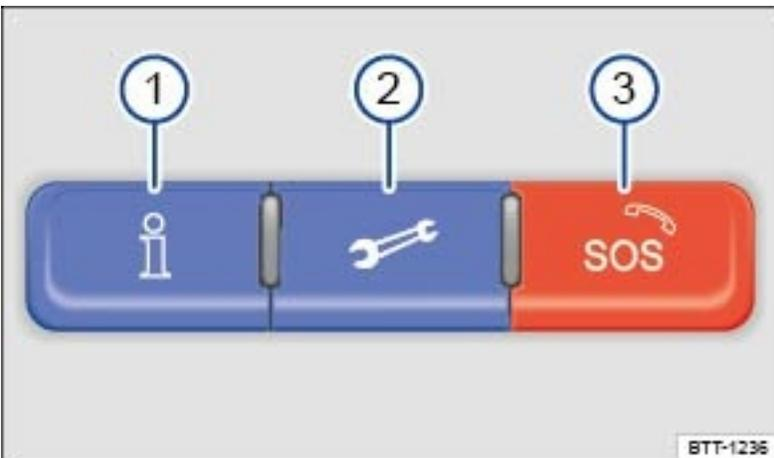
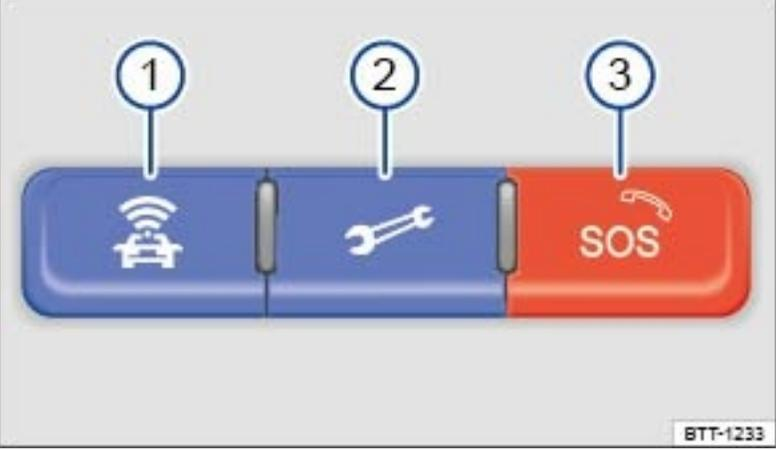

Fig. 18 In the roof console: 3-button module to access Volkswagen Car-Net service operators (Version 1).
Fig. 19 In the roof console: 3-button module to access Volkswagen Car-Net service operators (Version 2).
You can access Volkswagen Car-Net services via your Volkswagen Car-Net iPhone® or Android® app (text and data rates apply) and the Volkswagen Car-Net website (<http://www.vw.com/carnet>). If you have a question or would like to subscribe, please either press the → Fig. 18 ① or → Fig. 19 ① button in your vehicle or contact the Volkswagen Car-Net Response Center at 1-877-820-2290. For more information or to log on to your Volkswagen Car-Net account, visit <http://www.vw.com/carnet>.
(<http://www.vw.com/carnet>), press the → Fig. 18 ① or → Fig. 19 ①
<a href="#">→ Fig. 18</a> or <a href="#">→ Fig. 19</a>	Function